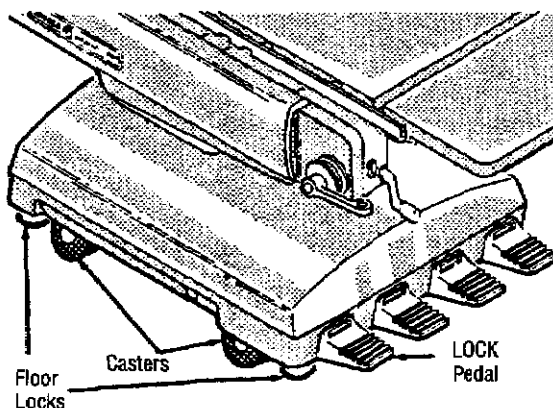

Figure 3-1. Locating Table
- a. Place LOCK pedal in its up (unlocked) position. Using a wrench, screw floor locks into base as far as possible (see Figure 3-1).